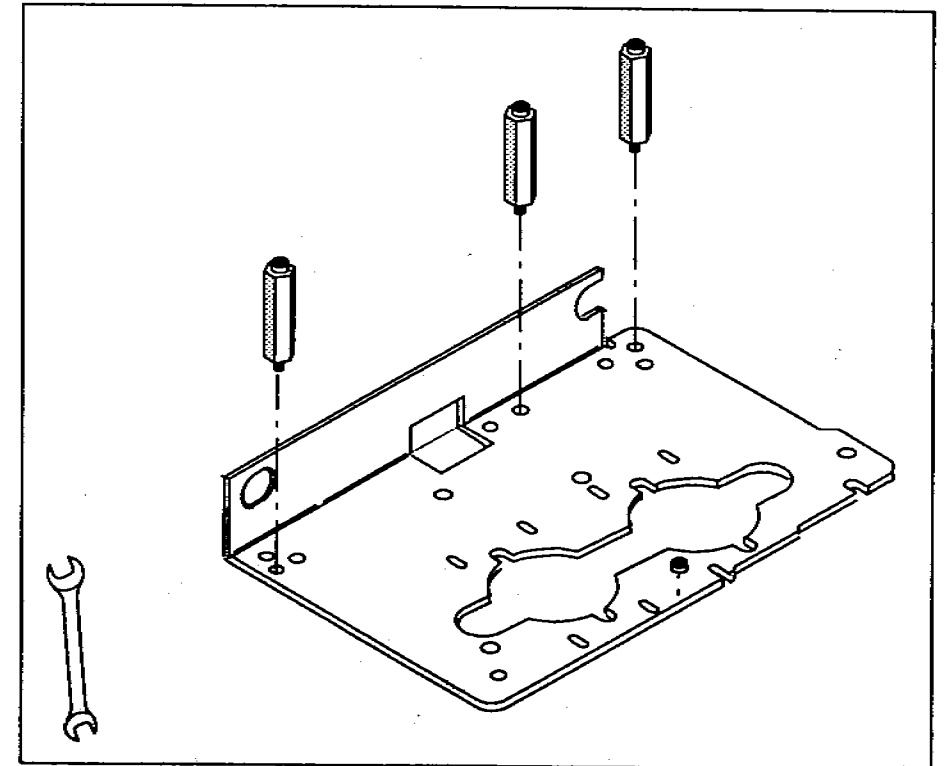

Figure 2. Mounting bracket holes for the tray standoffs.
- b. If the top of the standoffs do not line up with the holes labeled with the letter A, check the location of the standoffs against figure 2 on page 5.
- a. Screw the three standoffs (hexagonal posts) into the injector mounting bracket. Use the holes identified in figure 2. If you do not use the correct holes, the tray will not be able to deliver sample vials to the injector.